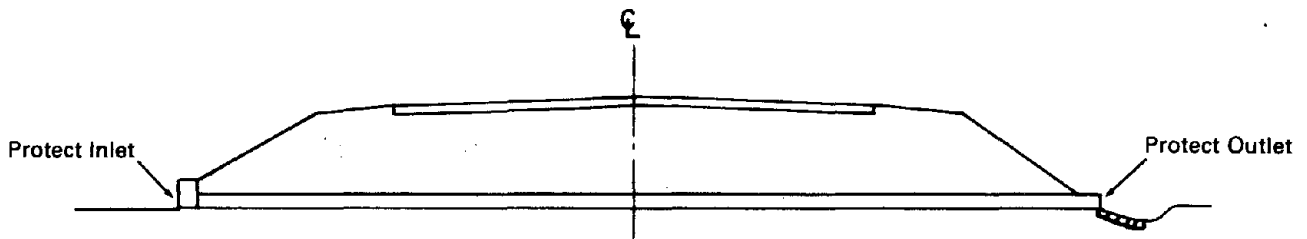

Figure 8. Inlet and outlet protection for pipes.
- f. Use headwalls and/or slope protection at pipe inlets and outlets (figure 8).